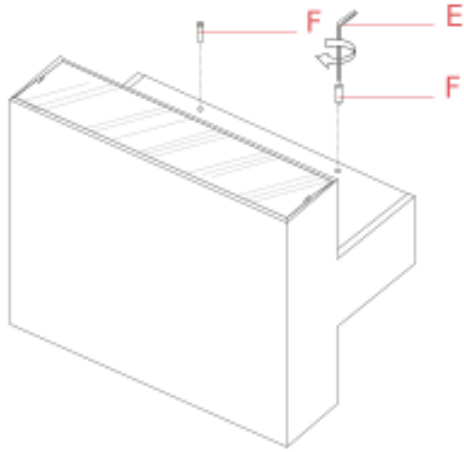

Fig.1
Lock the lamp to the wall attachment by fastening the screws (F) through the Allen key tool (E). (Fig.1)